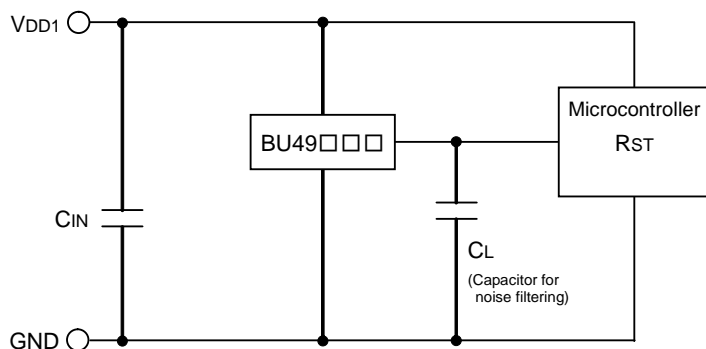

Fig.17 CMOS Output type
The power supply of the microcontroller (VDD1) is same as the power supply of the reset detection (VDD1). Use CMOS output type (BU43□□G/FVE) or Open Drain Output Type (BU48□□G/FVE) attached a load resistance (RL) between the output and VDD1. (As shown Fig.17)